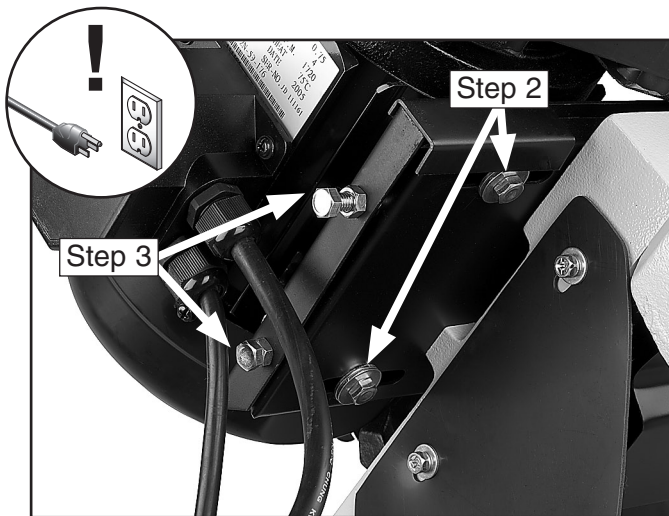

Figure 13. V-Belt tension hex bolts.
2. Loosen but do not remove the two hex bolts on the bottom of the motor mount (see **Figure 13**).
3. Adjust the two hex bolts on the outer edge of the motor mount to either loosen or tension the belt (see **Figure 13**).